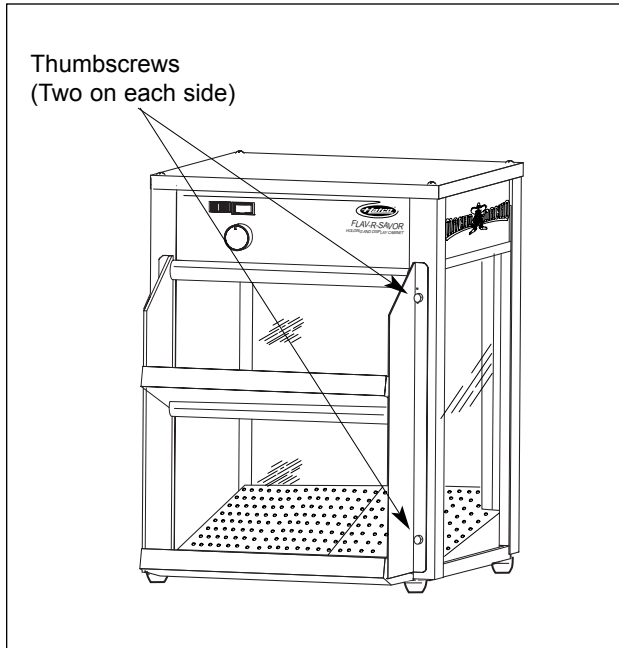

Figure 8. Removing Door Panel Assembly
*NOTE: For better access to the inside of the unit, the rear door panel assembly can be removed by loosening the thumbscrews on each side of the door panel assembly and lifting the assembly up and off. Be sure to tighten thumbscrews securely when installing the door panel assembly. See Figure 8.*